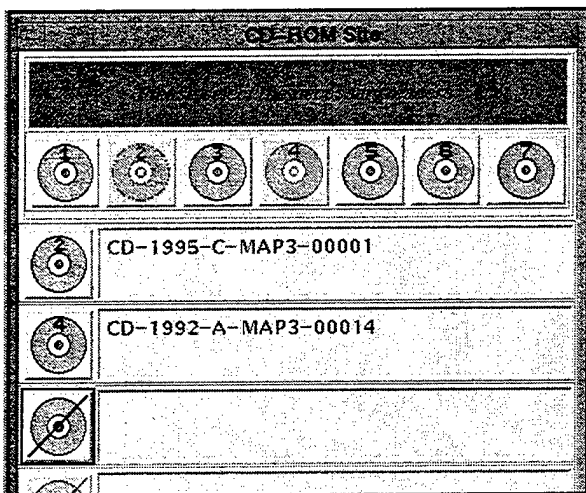

Fig. 77 — CDROM site window: deleted one CD reader from the list (#3)
- (5) If any of the listed CDs is not required, click (with middle mouse button) and drag that CD's number from the list to the Trash Can at the bottom of the window. Any CDs that were listed below the deleted CD will be bumped up to fill in the list (Fig. 77).